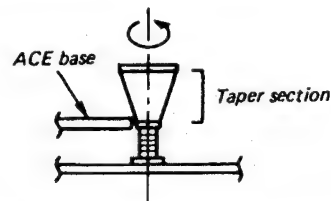

Fig. 1-4-12 Taper nut and ACE base
4. Turn the taper nut counterclockwise until the ACE base reaches the lower taper end of the taper nut as shown in Fig. 1-4-12.